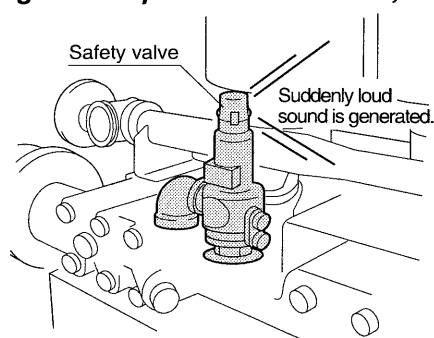

Fig. 6
* **If the pressure rises too high, the safety valve functions to generate large sound suddenly. When using the compressor in the room, use the ear plug. (Fig. 6)**